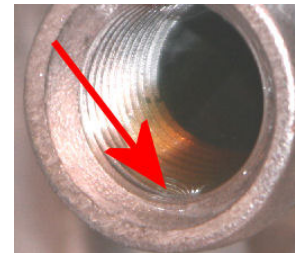

Fig 5-18 Oil level
2. Fill sump with oil of the grade specified in Table 3-2 to the top of the thread (Fig 5-18) and refit the cap.